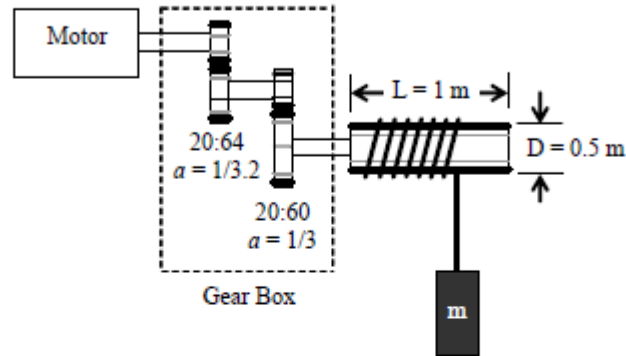

Figure 1
- In the hoist drive system of figure 1, all frictions and the moments of inertia of the gear wheels compared to the motor or the load are negligible.